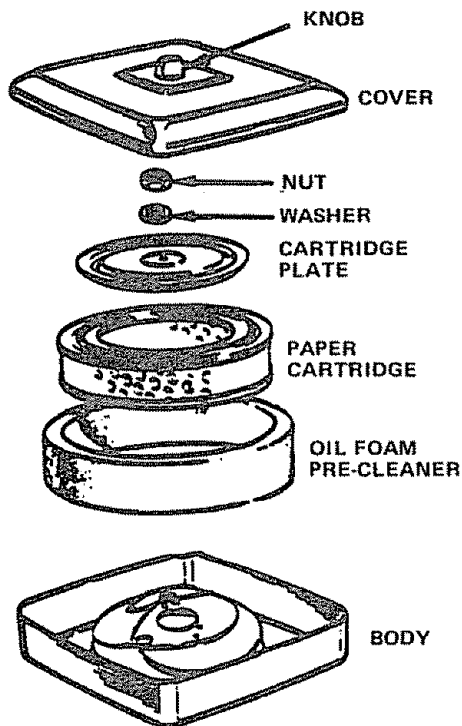

FIGURE 36
- Unscrew Knob (Fig. 36) to remove Cover.